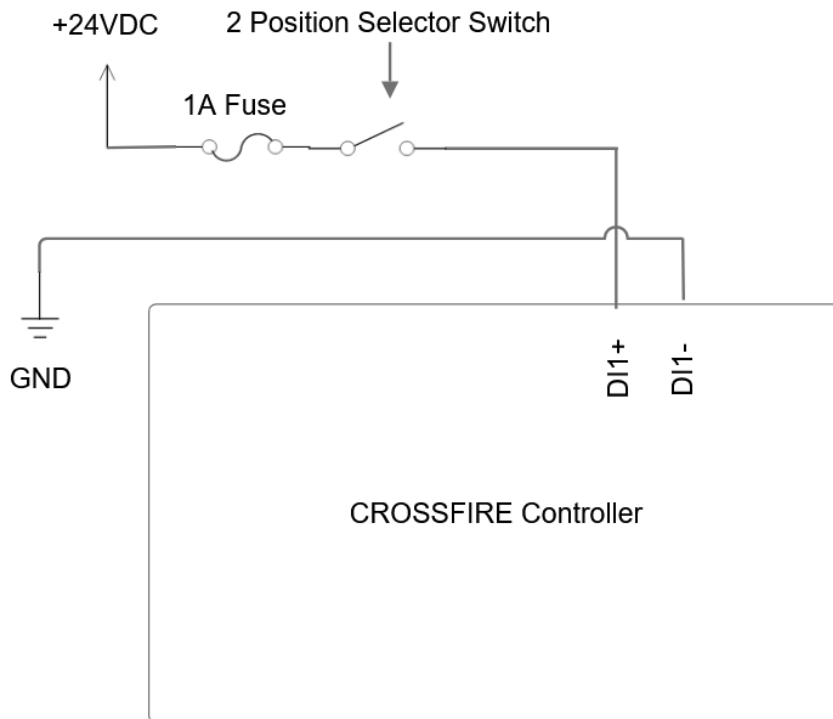

Figure 3: Wiring Diagram for Local Remote Mode
- Wire the switch to the Digital Input DI1+ terminal block on the controller such that 24 VDC will be on DI1+ when remote position is selected and 0 VDC for the local positioner (figure 3)